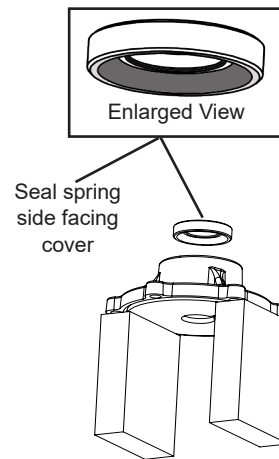

Figure 5
1. Carefully place seal in the cover centered with the crimped side down (see Figure 5). Press seal to bottom of cavity using a socket or dowel a little smaller than 1-1/8" (6 roller) or 1-1/4" (8 roller) to press evenly on seal diameter.